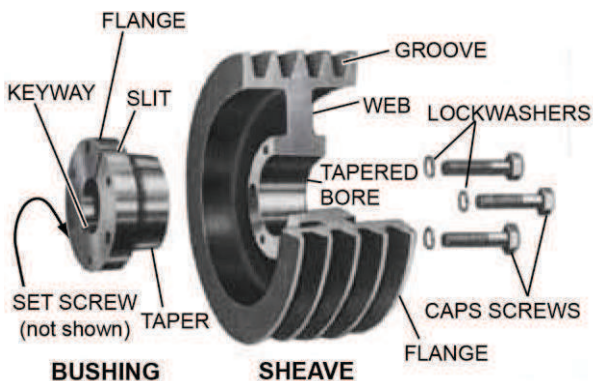

FIGURE 77 - INSERTING CAP SCREWS
2. Remove the cap screws from bushing/sheave as shown in *Figure 77* on page 78.